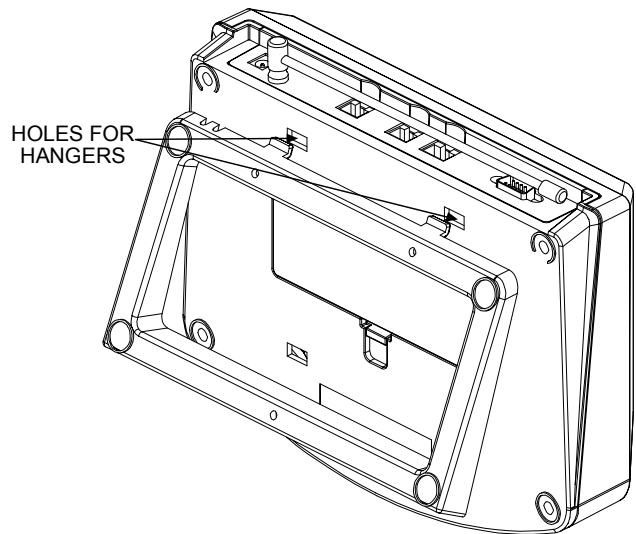

Figure 7c
3. With the bracket mounted on the wall, position the Base Unit so that the top two hangers of the bracket are fitted onto their respective holes followed by the bottom hanger (see Figure 7c).